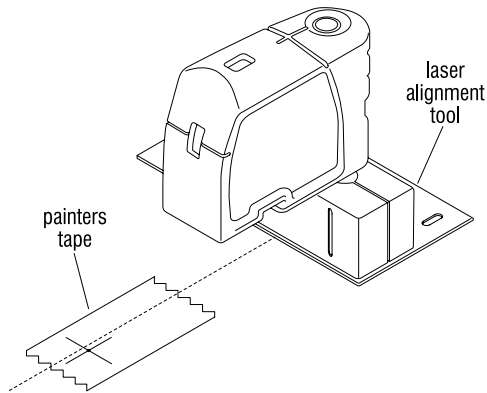

Figure 1
1. Following the KI quote drawing (or shop print if modified product), and using a laser alignment tool, painter's tape and a marker, mark square crosses on tape to correctly layout the center points of all post locations onto the floor for the super structure unit being installed. If seismic location post anchor brackets are to be installed (step 2 below), it is recommended to snap chalk lines between center marks (Figure 1).